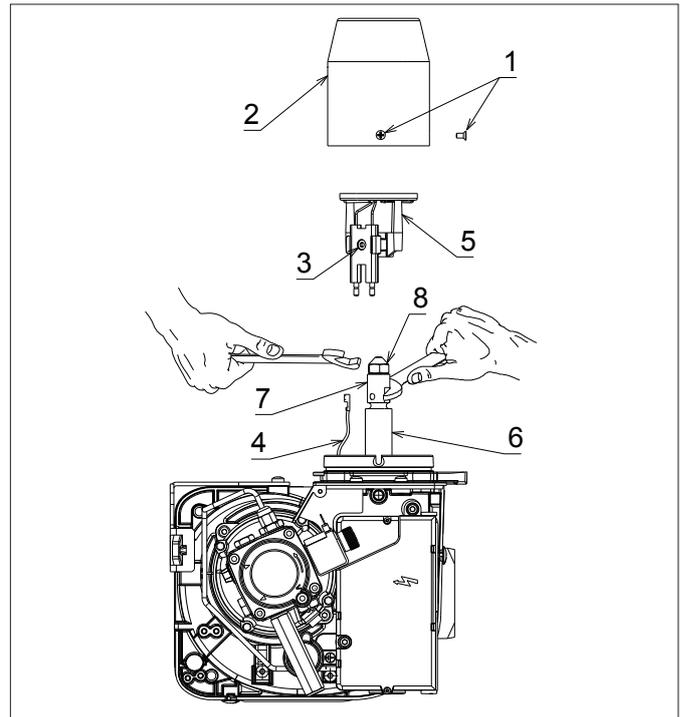
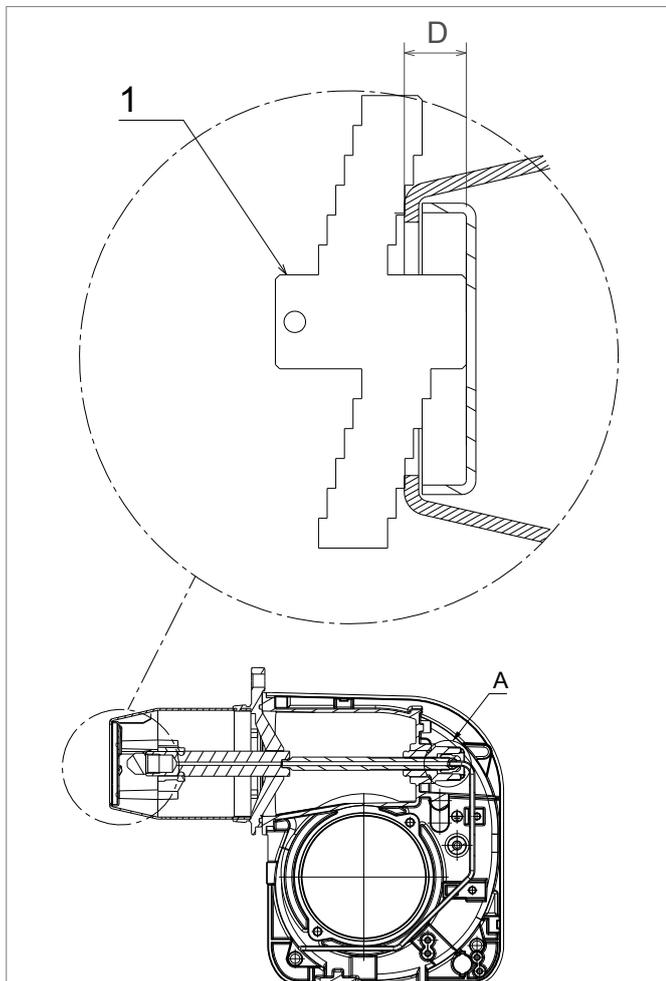

Figure 10-3: Burner head, diffuser and nozzle holder
Figure 10-5: Riello RDB 2.2 BX diffuser position and gauge plate
1. Remove the burner head. Refer to Figure 10-3. Loosen the three fixing screws (1) and remove head (2) from burner.
3. If the nozzle needs to be replaced - remove the diffuser/ electrode assembly. Refer to Figure 10-3.
- Using a 4 mm Allen key, loosen the diffuser fixing screw (3) on the electrode assembly.
- Lift diffuser/electrode assembly (5) up and off the nozzle holder.
- Disconnect both ignition leads (4) from the electrodes.
4. Use a 16 mm spanner to remove/re-fit the nozzle (8), whilst holding the nozzle holder (6) using a 19 mm spanner.
5. Re-fit the diffuser/electrode assembly. Refer to Figure 10-3.
- Reconnect ignition leads (4) to electrodes.
- Re-fit the diffuser/electrode assembly (5) onto the nozzle holder lining up the fixing screw with the recess in the nozzle holder.
- Tighten the fixing screw (3) to secure the diffuser/ electrode assembly in place on the nozzle holder.
7. Re-fit the burner head. Refer to Figure 10-3.
- Locate the head fixing screws (1) in the countersunk slots in the burner collar.
- Tighten the three screws (1) to secure the head (2) in position on the burner.
8. Adjust the diffuser position. Refer to Figure 10-5.
- Position the gauge plate on the burner head as shown in Figure 10-5.
- If necessary, adjust distance D using the black adjustment knob located around the oil supply pipe on the front of the burner. Refer to item A (Figure 10-5). Re-check distance D using the gauge plate, as described above.